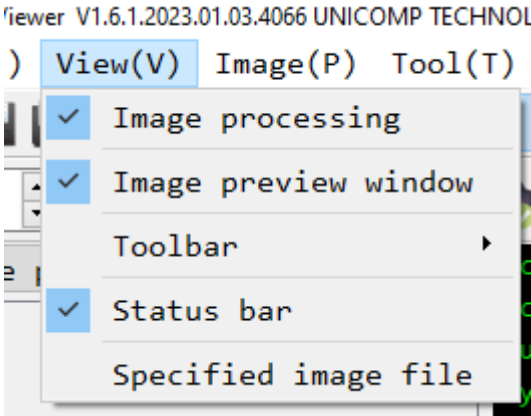

Fig. V-8 Image Processing Entry (L), Image Processing Dialog Box (R)
improve the image quality to a certain extent and highlight the details of the defect part. The image processing entry and image processing dialog box are shown in Fig. V-8. The window can be displayed and hidden in the menu bar "View (V)" ->"Image Processing":
① In the list operators for the current operator combination (Fig. V-8), choose the name of the operator to be deleted;
② Click  to delete the chosen operator immediately;
④ Save the operator combination.
(1) Move operator up
① Choose the name of the target operator in the list of operators for the current operator combination (Fig. V-8);
② Click to move the operator up for one bit;
③ Repeat step 2 until the operator moves to the destination;
(2) Move operator down
① Choose the name of the target operator in the list of operators for the current algorithm group (Fig. V-8);
② Click to move the operator down for one bit;
⑤ Save the operator combination.